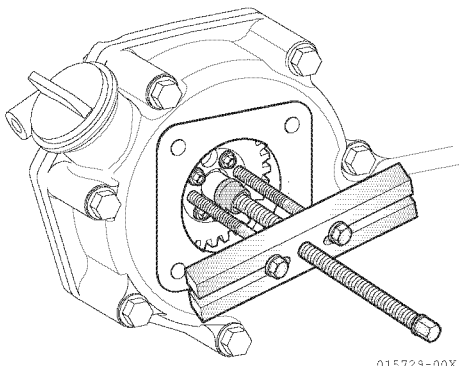

Figure 6-26
8. Hold crankshaft to prevent it from turning and loosen the nut for fuel injection pump drive gear / flange assembly with an extraction tool (Figure 6-26). **CAUTION! Do not disassemble pump flange, fuel pump drive gear and flange bolt.**